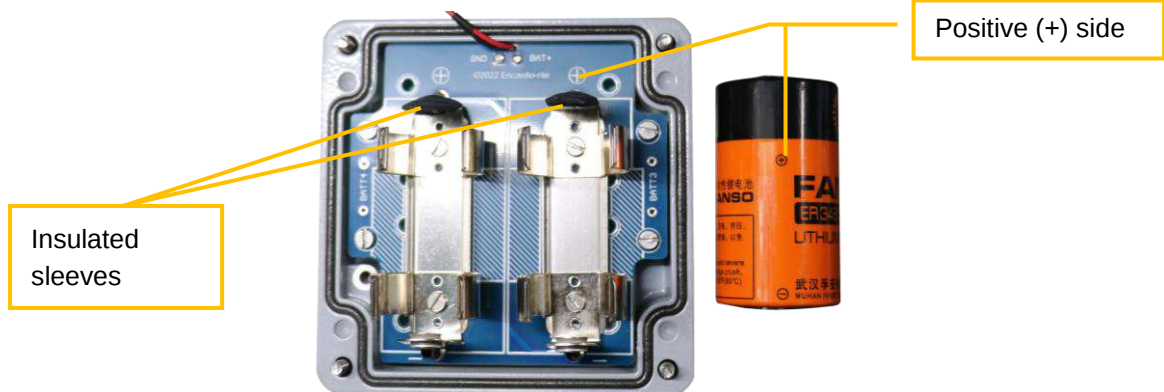

Figure 5-4
- Open the "EWA-01" apk installed on an Android phone. It will show the list of paired Nodes as shown in Figure 5-4 (b). Select the Node that you paired earlier from the list.